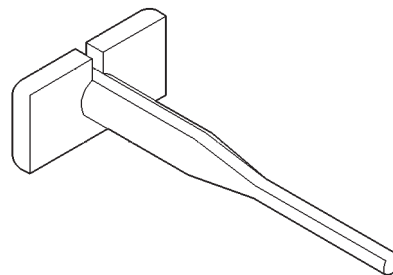

Fig. 15 Removing Wire Terminal
(4) Insert the probe end of special tool 6934 into the back of the connector cavity (Fig. 15).
(5) Grasp the wire and tool 6934 and slowly remove the wire and terminal from the connector.
(6) Repair or replace the terminal.
(7) Install the wire and terminal in the connector. Fully seat the terminal in the connector.